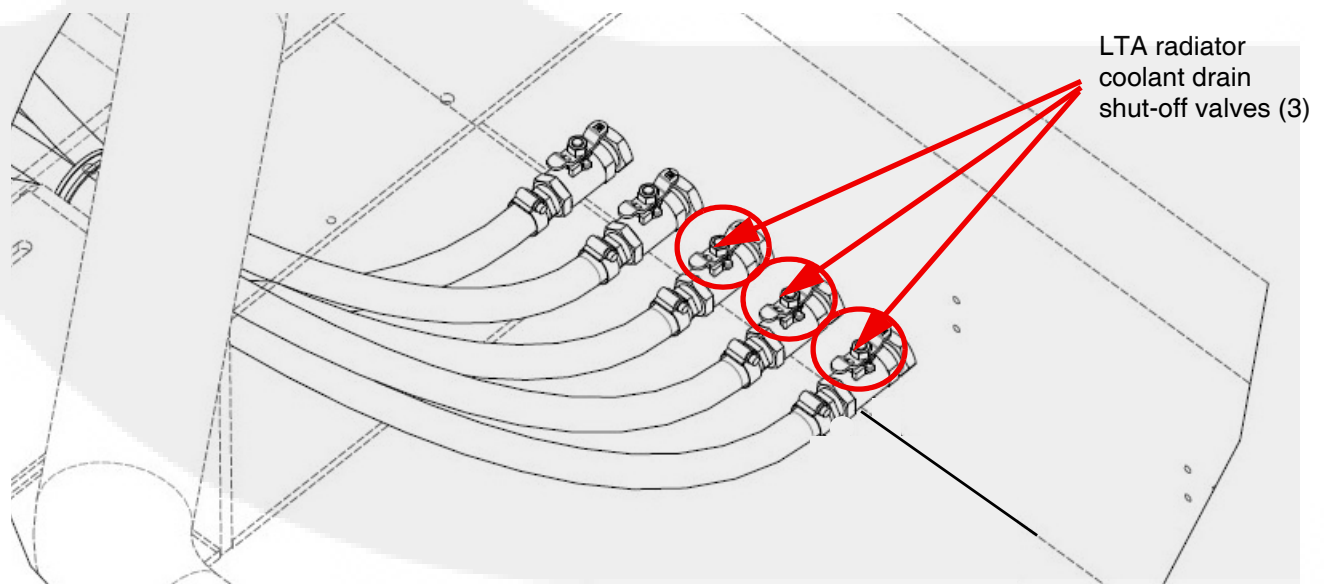

Figure 5-8 LTA radiator coolant drain shut-off valves (GenSet right side)
4. As shown in Figure 5-8, check that the LTA radiator coolant drain valves are closed. The LTA shut-off valves are located *directly behind the LTA drain holes* on the right side of the GenSet. Make sure the tee handle is perpendicular to the drain line.